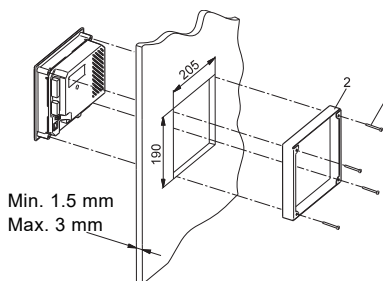
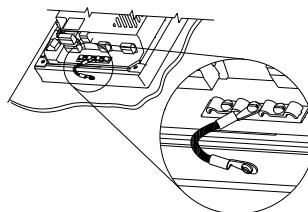

Fig. 1 Mounting in panel front, standard
Fig. 2 Earth connection
Fasten CU 323 with the four M5 x 10 screws supplied with the product. See fig. 1 (1).
Connect the earth terminal between the cable clamps on CU 323 to the mounting frame. See fig. 1 (2) and fig. 2.
- Ensure sufficient earth connection between CU 323 and the frame. See fig. 2.